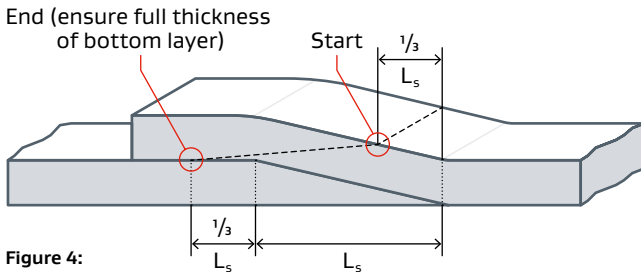

Figure 4:
- The start point of the second skive cut is located at the top of the gasket material, at a distance of $1/3$ (L_s) from the pointed end of the bottom skive cut (see Figure 4). This will make the tallest section of the skive $1/3$ thicker than the base-layer gasket, indicated by (h) in Figure 5.
Perform the closing skive cut on a flat surface. Complete the gasket by removing the rest of the adhesive backing, laying the gasket in the groove, and overlapping the skived cuts so they resemble Figures 4 & 5.